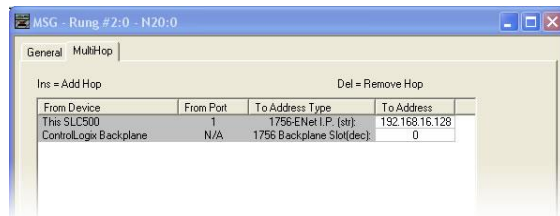

Figure 56: MSG Configuration, "MultiHop" Tab
- e) Under the “MultiHop” tab settings, set the “To Address” in the first row to the inverter’s IP address, and the “To Address” in the second row to 0. Refer to Figure 56.